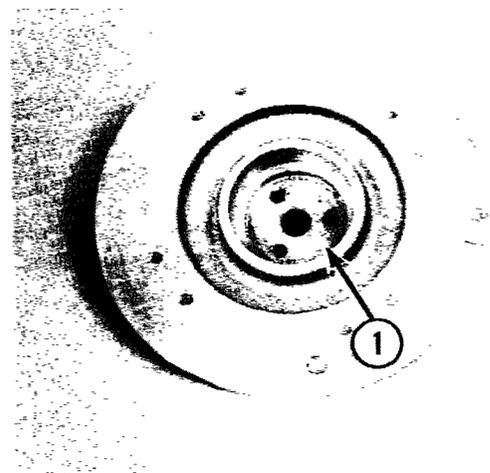

Fig. 3-5
D. Check the bottom of the bowl support for shims (1, Fig. 3-5).